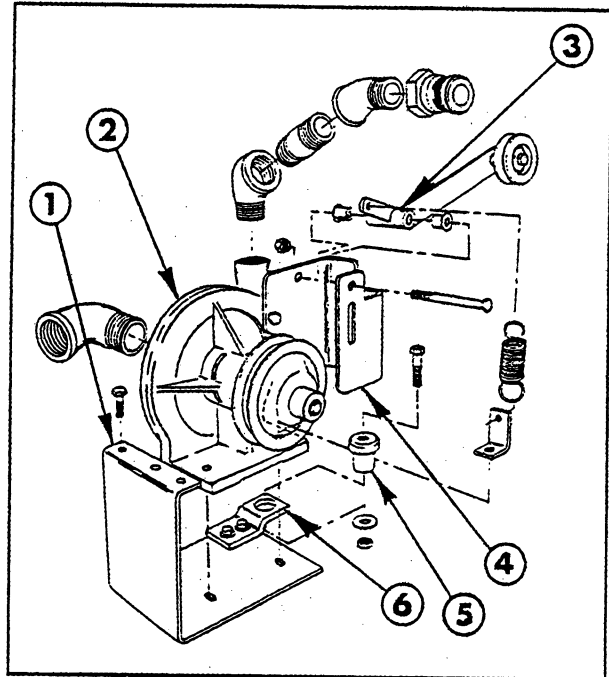
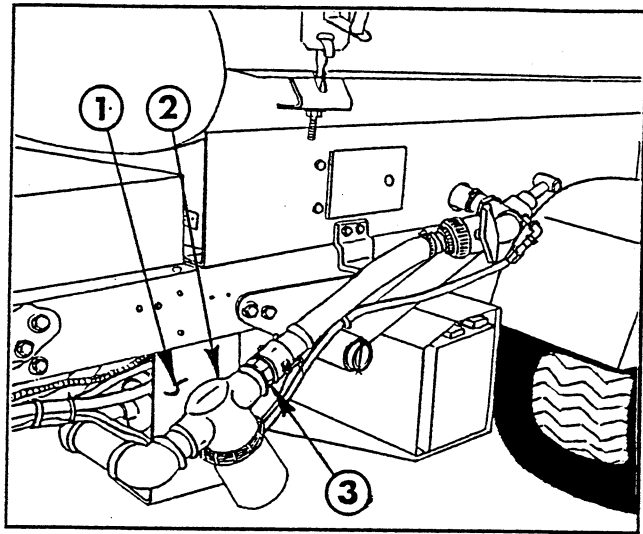

FIG. 2
FIG. 4
4. Attach the idler pivot bracket to the pump by removing the two pump housing bolts and replace with the (2) 3/8"x 1" hex hd. cap screws (FIG. 2).
5. Install one flange bushing into each end of the idler pivot assembly mounting hole and attach to the idler bracket using the 3/8" x 3" hex hd. cap screw and locknut (FIG. 2)
6. Mount the small inside idler pulley on the long arm of the idler pivot using the 3/8" x 2-3/4" hex hd. cap screw, 1-1/8" spacer, and locknut. Attach the tension spring to the short arm of the idler pivot assembly. See FIG. 2.
7. Next, apply sealer and install the 90 degree x 1-1/4" street elbow into the suction port of the pump. Apply sealer and install the 1"x 3" nipple, (2) 45 degree x 1" elbows, and quick adapter into the discharge port of the pump (FIG. 2).
8. Install the rubber mount into the tab mount and loose fit the tab mount to the pump mounting bracket using the (2) 3/8" x 1" hex hd. cap screws, flatwashers, and locknuts (FIG. 2).
9. Attach the pump mount bracket assembly to the left side of the vehicle frame using the (3) 5/16" x 1" hex hd. cap screws, lockwashers, and hex nuts (FIG. 4). Next, attach the tab mount to the crossmember using the 3/8" x 1-1/2" hex hd. cap screw, 3/8" I.D. 10 GA. flat washer, and locknut (FIG. 2). Tighten all fasteners securely.
11. Mount the pump and the spring tab to the mounting plate using the (2) 3/8" x 1-1/2" hex hd. cap screws, flat washers, and locknuts. Attach the spring to the spring tab located at the base of the pump (FIG. 2).
12. Apply thread sealer and install the 1-1/4" x 6" nipple, 90 degree x 1-1/4" elbow, 1-1/4" close nipple, suction strainer, reducing nipple, and quick adapter into the suction side of the pump (FIG. 4).